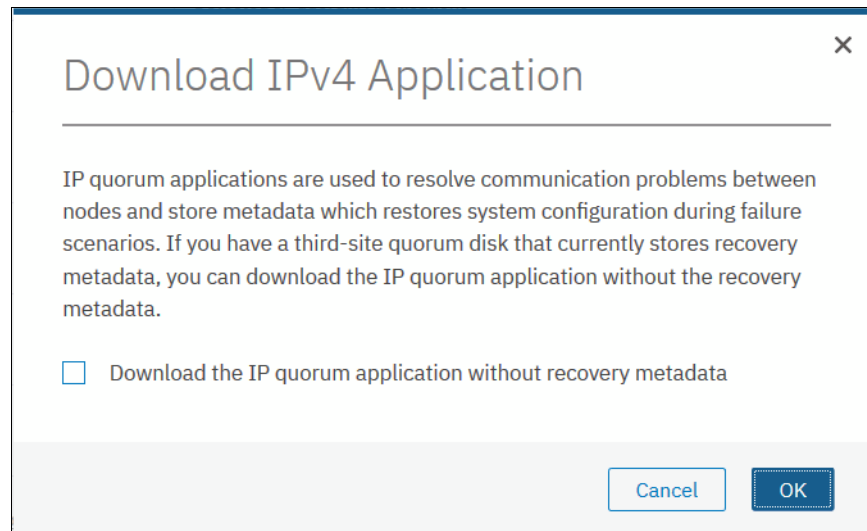

Figure 3-39 Download IP quorum application window
2. After you click **Download...**, a window opens, as shown in Figure 3-39. It provides an option to create an IP application that is used for tie-breaking only, or an application that can be used as a tie-breaker and to store recovery metadata.